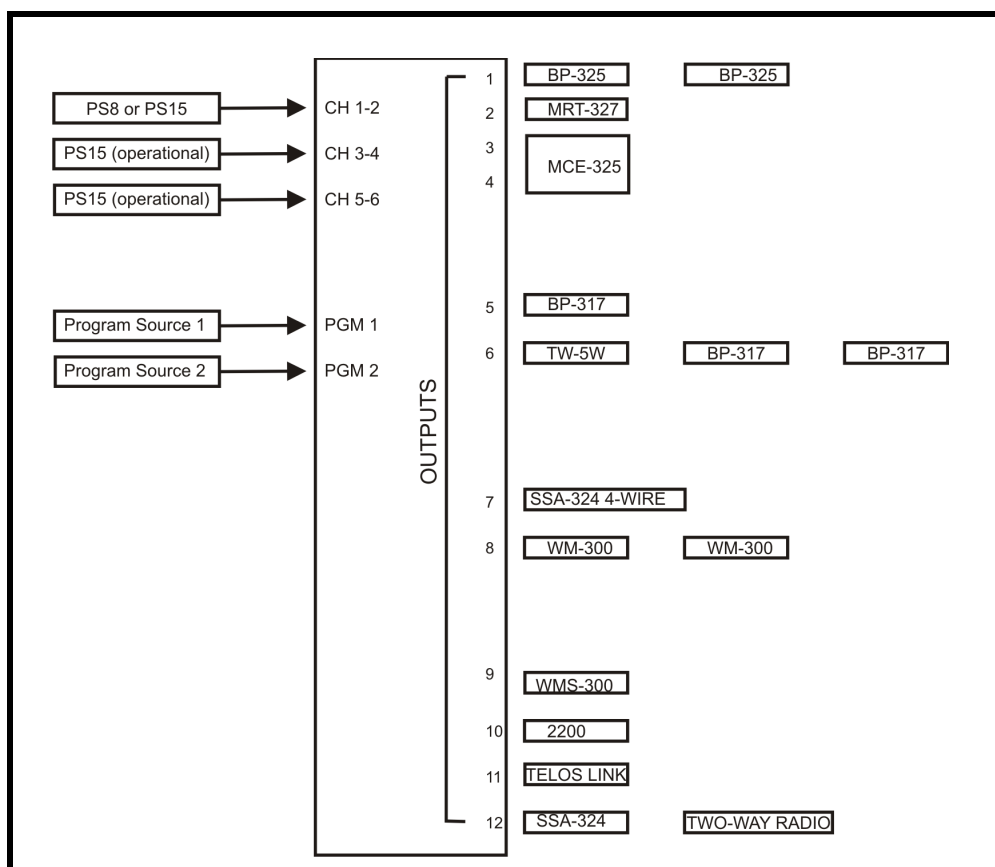

FIGURE 1. Typical System Diagram
The Model SAP612 Source Assign Panel independently assigns each of 24 TW channels (12, two-channel TW user station strings) to any one of six busses, or common channels. All channels assigned to a common buss channel can intercommunicate and exchange call signals. A typical application is diagrammed in Figure 1. One (1) to three (3) TW power supplied (such as Models PS8 or PS15) may be conveniently connected to the SAP612 to distribute power to the intercom stations. Or, the SAP612 may be used with a non-TW power source. The SAP-612 has two balanced, transformer isolated program inputs. Program 1 is permanently assigned to buss channel 5, and program 2 is permanently assigned to buss channel 6.